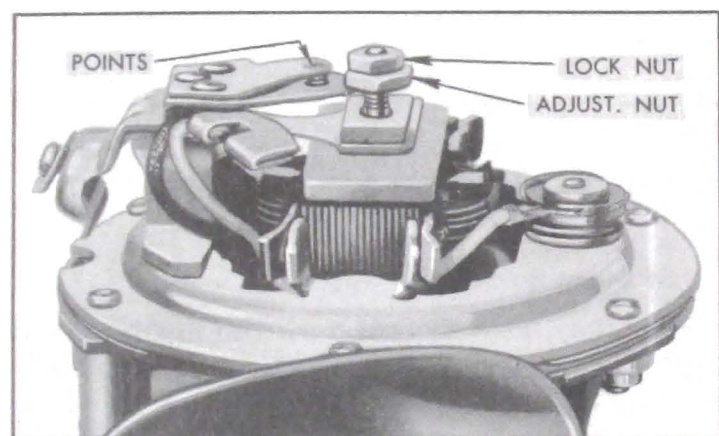

Figure 10-75—Horn Contact Point Adjustment
4. Adjust to specified current draw, if necessary, by loosening lock nut and turning contact point adjusting nut clockwise to decrease or counterclockwise to increase current draw. See figure 10-75. This adjustment is very sensitive, and adjusting nut should not be moved more than one-tenth turn at a time, then locked with nut each time before trying the horn.